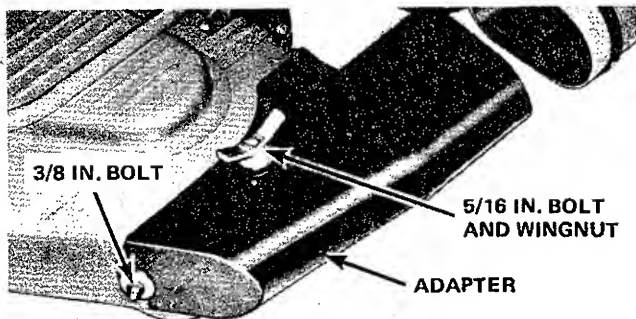

FIGURE 1
3. Install the 3/8 in. carriage bolt at the front hole, also from the inside. Install the 3/8 in. spacer in the hole and the large flat washer on the outside against the adapter. Secure the bolt with the 3/8 in. lockwasher and nut. Adjust the position of the adapter, then tighten both nuts (at the front and top of the adapter) securely. Install the flanged wingnut on the top mounting screw. (See Figure 1)